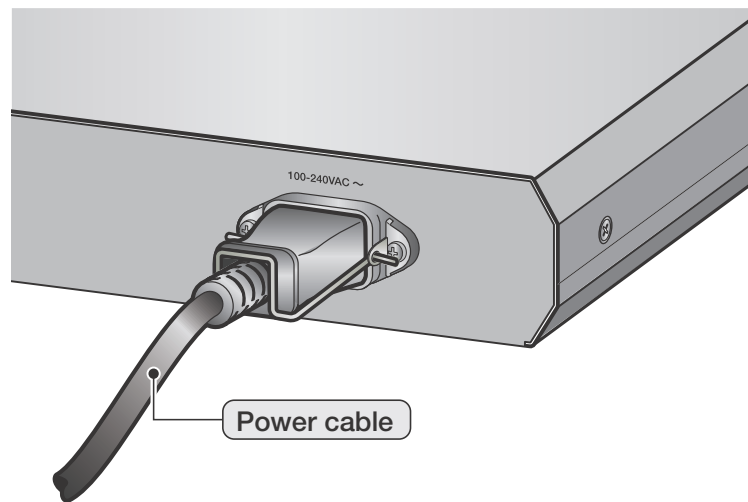

Figure 33. Plugging in the AC Power Cord on an AT-x210-16GT Switch
2. Plug the power cord into the AC power connector as shown in Figure 33 on the back of an AT-x210-16GT Switch.